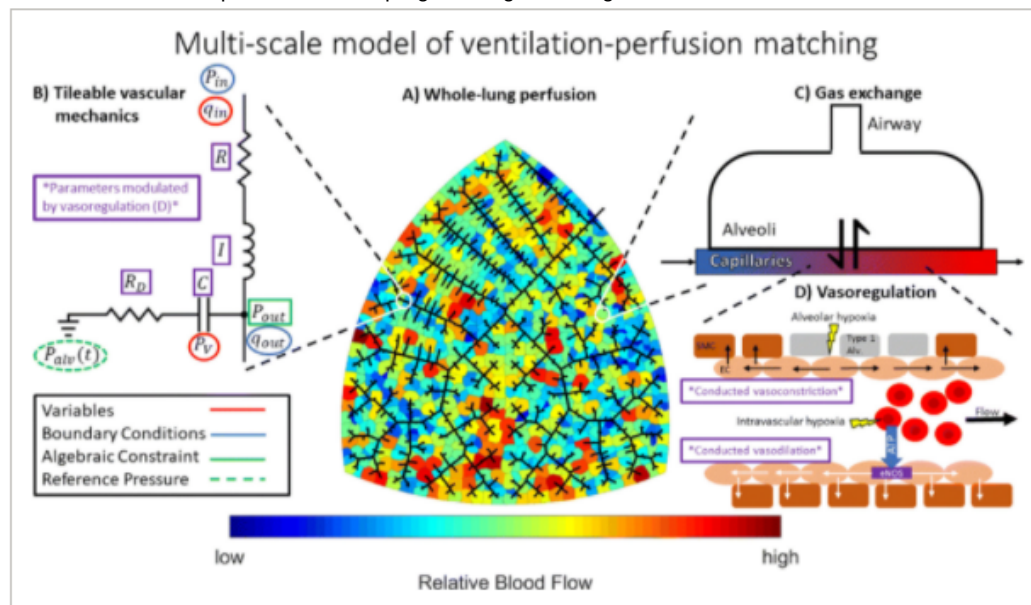

Figure 1: Online model of V/Q ratios
- The model of the computer design can be seen in figure 1